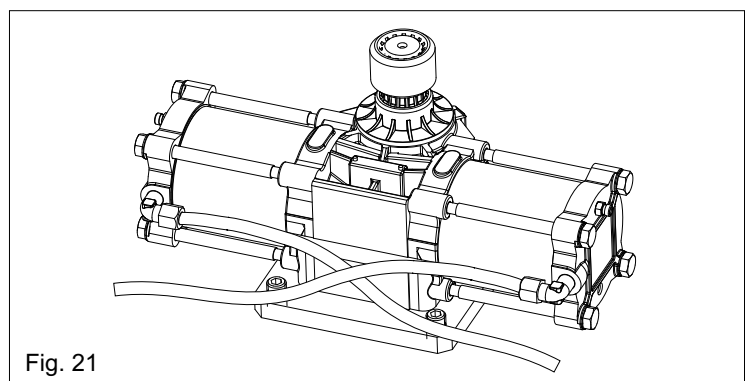
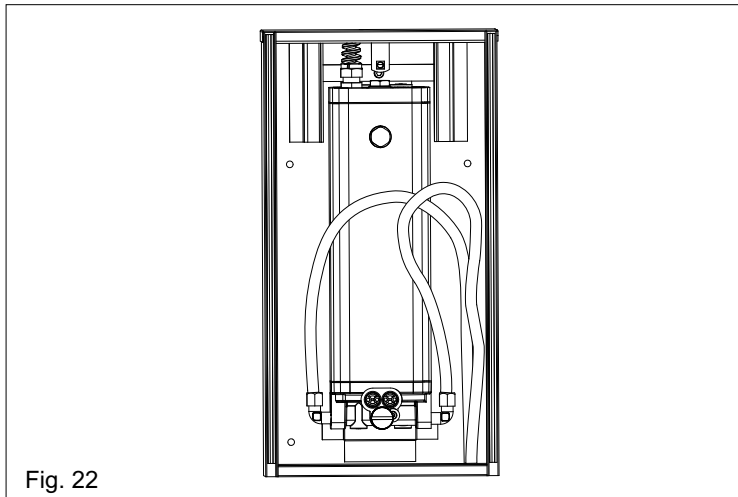
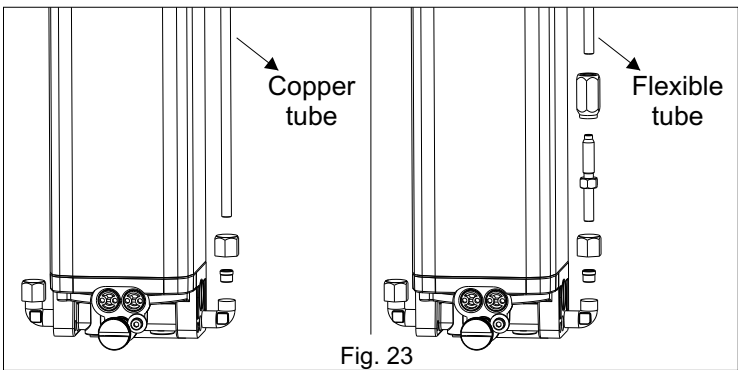

Fig. 21
Fig. 22
Fig. 23
5.1. Connect the hydraulic tubes with the hydraulic unit and the jack (Fig.21, Fig.22, Fig.23).